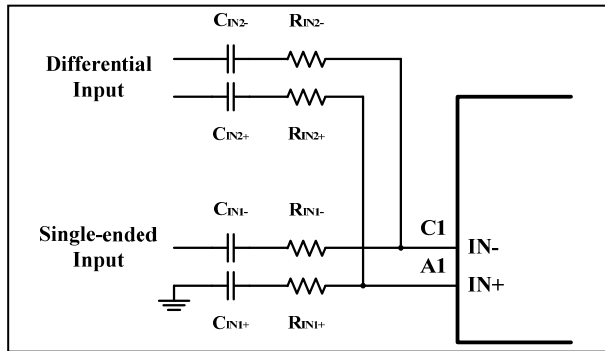

Figure 13 Summing Differential Input and Single-Ended Input Signals
Figure 13 shows how to sum a differential input signal and a single-ended input signal. Ground noise may couple in through $IN-$ with this method. It is better to use differential inputs. The corner frequency of the single-ended input is set by C_{IN2} , shown in Equation (8). To assure that each input is balanced, the single-ended input must be driven by a low-impedance source even if the input is not in use.